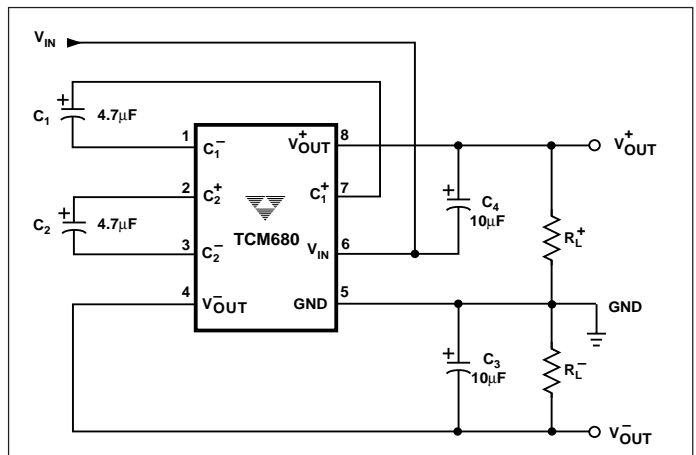

Figure 1. Test Circuit
**ELECTRICAL CHARACTERISTICS:**  $V_{IN} = +5V$ ,  $T_A = +25^\circ\text{C}$ , test circuit Figure 1, unless otherwise indicated.